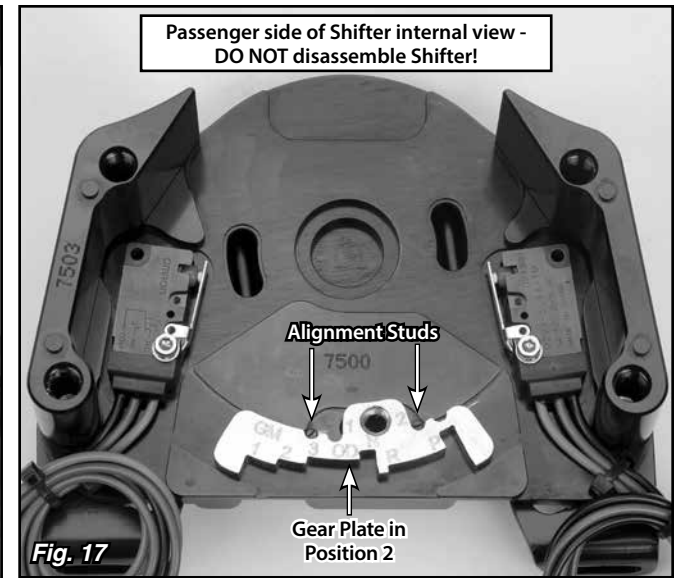
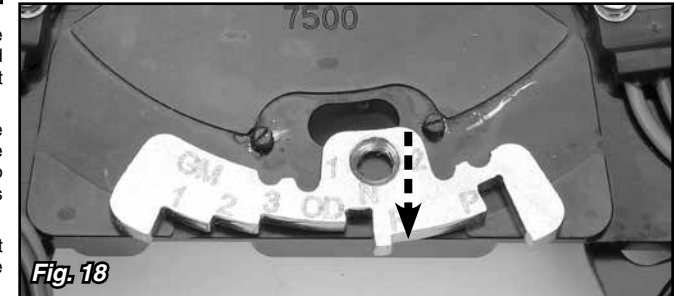
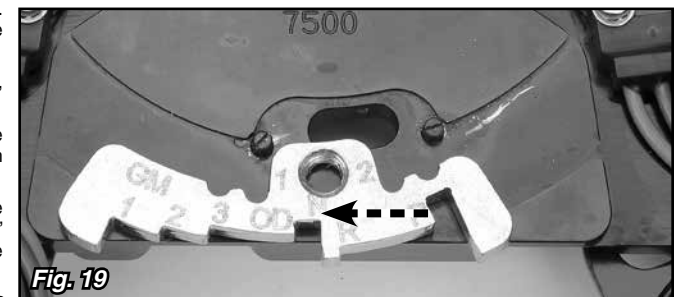
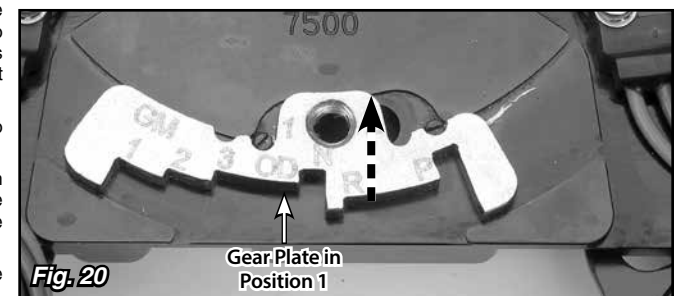

Fig. 17
Fig. 18
Fig. 19
Fig. 20
The Shifter in Fig. 17 through Fig. 20 has been disassembled ONLY FOR PHOTOGRAPHIC CLARITY. DO NOT disassemble the Shifter for this procedure!
- Step 4:** Note the relationship of the notches in the top of the gear plate to the alignment studs protruding from the side plate in **Fig. 17**. There is a "1" and a "2" on either side of the gear plate bolt hole. In **Fig. 17**, the "2" is closest to an alignment stud, showing the gear plate is in Position 2.
Lift the gear plate slightly so it clears the recess in the side plate, and move the gear plate slightly towards you so it clears the alignment studs. **Fig. 18** Move the gear plate to the left (**Fig. 19**) and then forward into its new position so the studs are in the other pair of notches. Now, the "1" on the gear plate is closest to an alignment stud (Position 1). **Fig. 20**